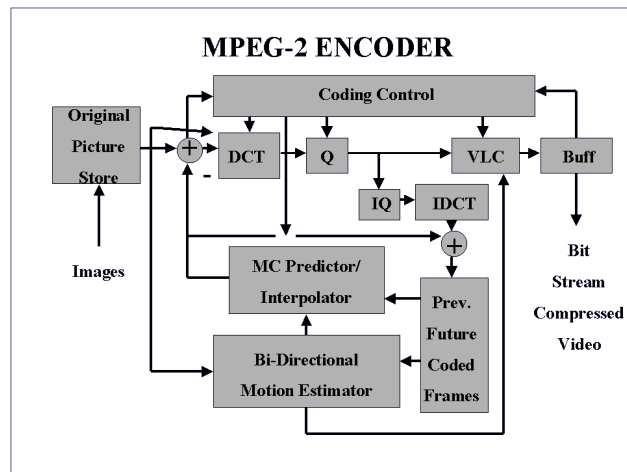

Figure 1: MPEG-2 encoder block diagram
The MPEG-2 encoder is a stripped-down version of the one in the MediaBench II benchmark suite. Understanding video encoding should not be necessary to profile the code. Nevertheless, we will introduce the video encoder in some detail for convenience. An MPEG-2 encoder takes a video sequence that consists of frames (pictures). Each frame consists of blocks of  $16 \times 16$  pixels, the macroblocks. A pixel is represented by 3 values. One value (Y) represents the intensity (gray-level), which is also called luminosity (luma). The other 2 values (U and V) represent the color. They are also referred to as chroma. There are 2 types of macroblocks, intra and inter blocks. For inter blocks, we use information from a previous frame to make a prediction of the macroblock. Intra blocks have no prediction. In addition, we use 2 types of frames: I-frames and P-frames. I-frames contain only intra blocks, and P-frames may contain inter blocks too. Figure 1 shows a block diagram of a typical encoder implementation, which consists of the following components: